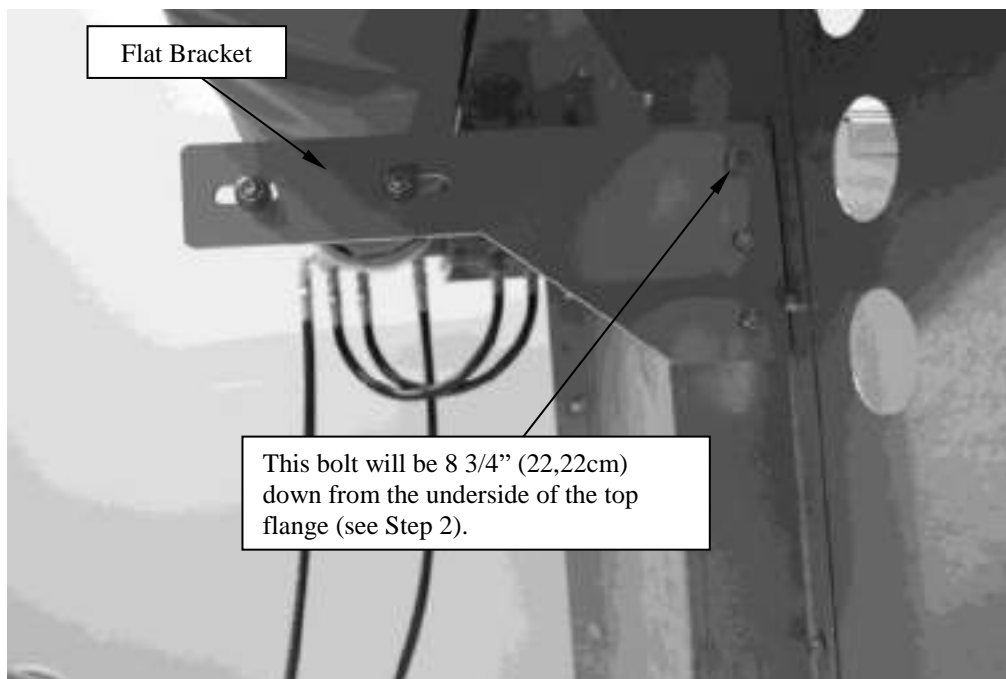

Fig 17
3. The C-bracket assemblies are 2 pieces, a flat bracket and the C-bracket. Disassemble the C-brackets. Align the top hole in the flat bracket with the horizontal line on the Z-brace so that the flat bracket is seated firmly against the pool wall (Fig 17). Mark all the holes in the flat bracket on the Z-brace.
4. Use a 5/16" (8mm) drill bit to drill out each of these three holes for every Z-brace. Then use the provided hardware to attach the flat bracket to the Z-brace. (Fig 17)
7. Line up the pulley channel to the drive assembly and C-brackets so that the hinged pulley assembly on the pulley channel is at the same end as the rope reel and drum motor assembly. Attach the pulley channel to the end brackets first using the provided hardware (Fig 17).